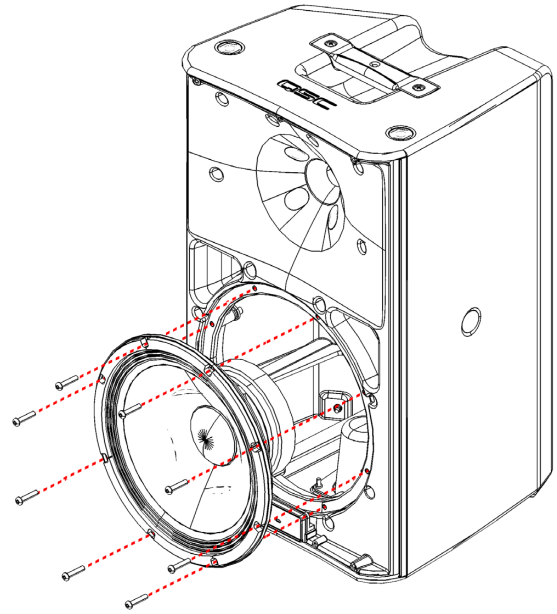

Figure 5.5.1 - LF transducer
- Remove 8 hex screws around the perimeter of the transducer's frame as shown in Figure 5.5.1.